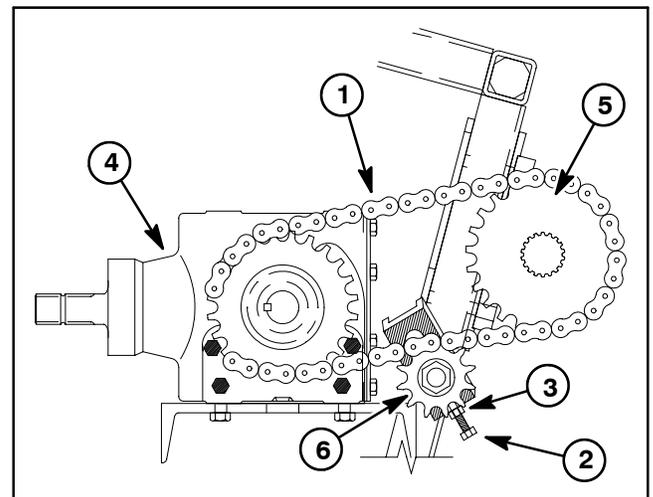

Figure 17
3. Loosen jam nut (item 3), hex nut (item 17) and bolt (item 16) to loosen idler tension on drive chain.
5. Remove drive chain from gearbox, coring crankshaft and idler sprockets (Fig. 17).
A. Position drive chain to gearbox sprocket, pull upper run of chain tight and align with coring crankshaft sprocket teeth. If necessary, slightly rotate coring crankshaft so that chain remains tight when aligned with sprocket teeth. Route chain over idler sprocket and back to gearbox sprocket (Fig. 17). Do not allow upper run of chain to have excessive slack.
B. Apply grease to master link O-rings. Place two (2) O-rings on master link pins and install into ends of drive chain. Place final two (2) O-rings on master link pins and install side plate.